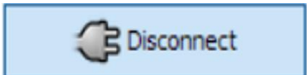
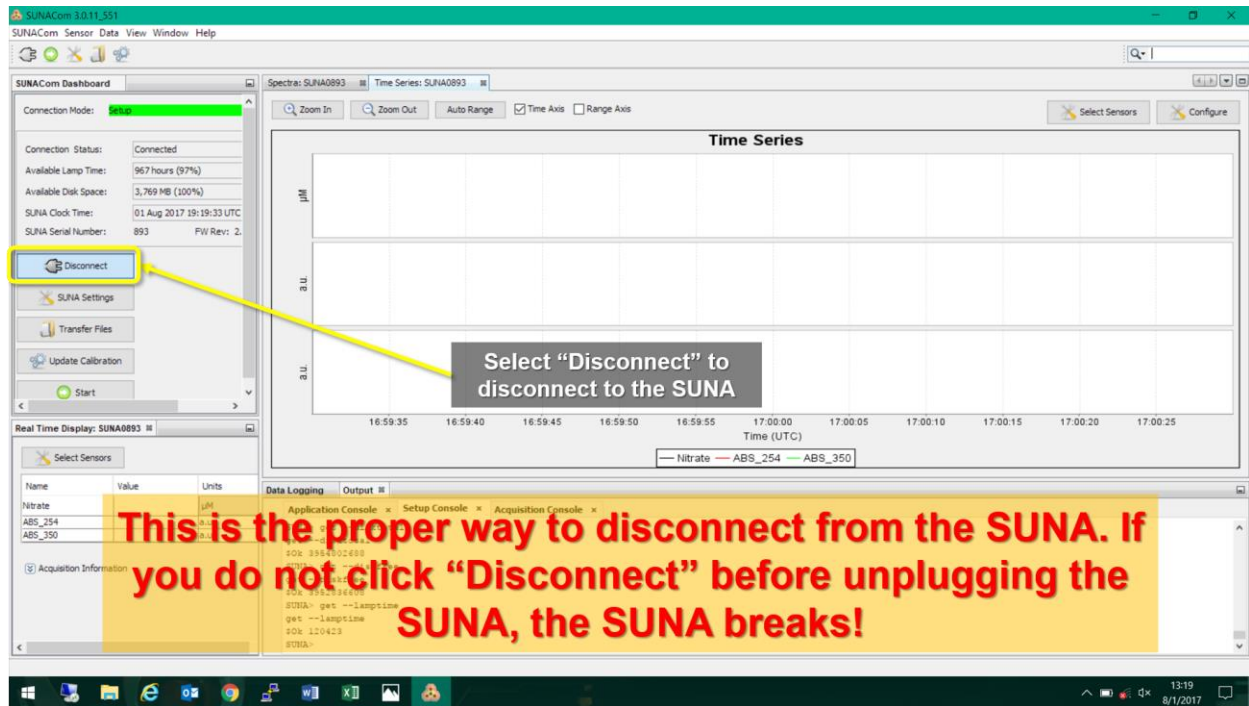

Figure 115. Click "Disconnect" Icon
Figure 116. Click "Disconnect" to Properly Disconnect from the SUNA
- To disconnect from the SUNA instrument, click "**Disconnect**" under the **SUNACom Dashboard** section of the main program window (see Figure 115 and Figure 116).